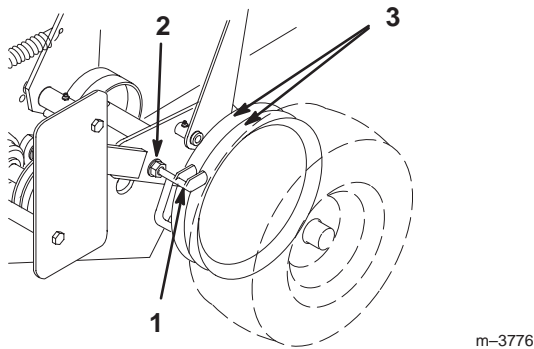

Figure 55
- Loosen the locknut holding scraper to the engine frame (Fig. 55).
- Rotate scraper until they align with center of pulley grooves (Fig. 55).
- Tighten the locknut (Fig. 55).